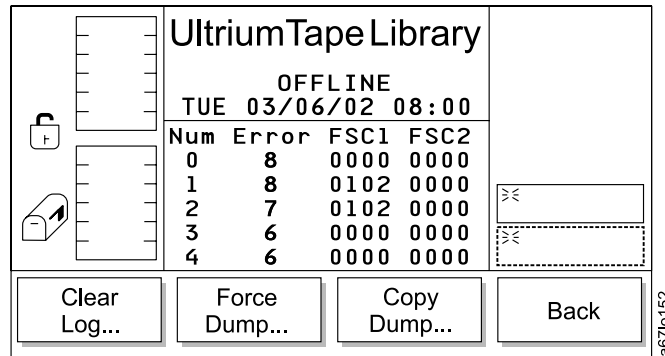

Figure 103. Drive Error Log Options Dialog
- If **Options** is selected, the Drive Error Log Options Dialog displays (see Figure 103 on page 103).
- If **Cancel** is selected, the Drive Error Log Options Dialog displays (see Figure 103).
- If **Cancel** is selected, the Drive Error Log Options Dialog displays (see Figure 103 on page 103).